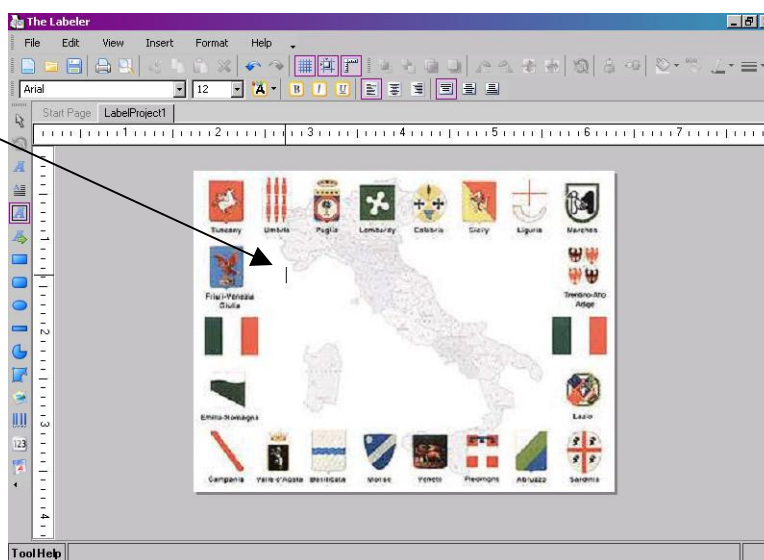

Figure 3.4.3.2: Default Size Boxed Text
- Type the text in that you wish to be shown on the label (see Figure 3.4.3.3)